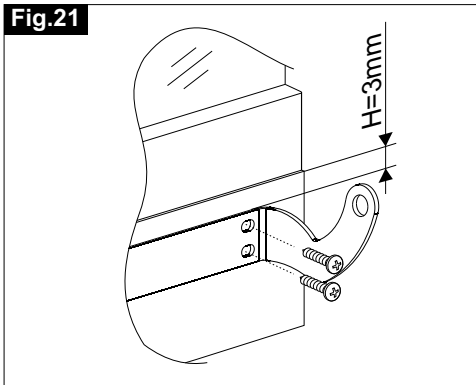

Fig.22
- 10) **Fig.22-** Insert the chain end before the left connection point (**Ref.1**) and then on the right connection point (**Ref.2**);